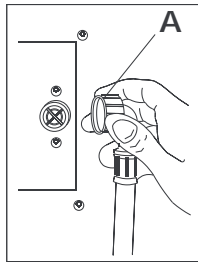

fig. 6
- Connect the water supply tube to the G 3/4" connection piece of the oven screwing in the pipe union (A - fig. 6). Insert an appropriate mechanical filter and a shut-off valve in the circuit.